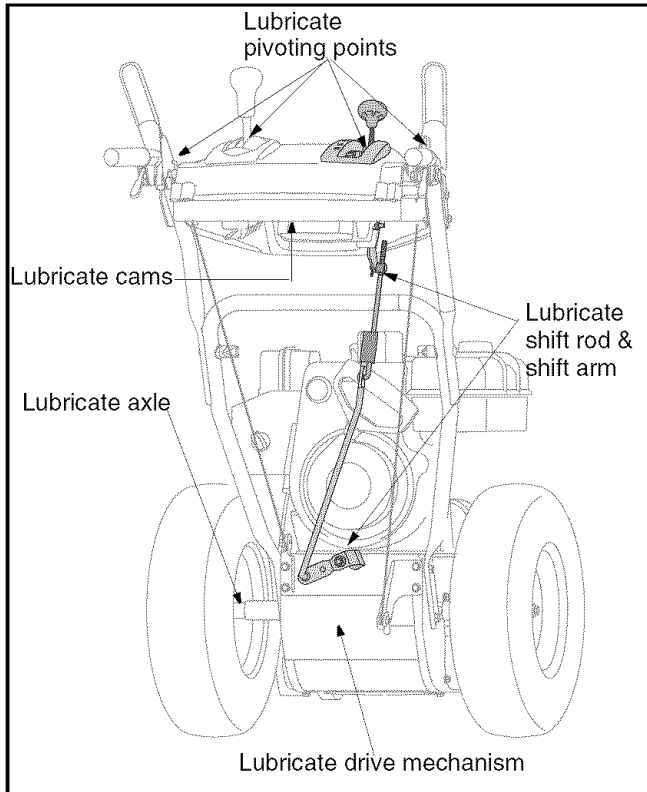

Figure 15
- **Drive/Auger Control Lock:** The cam on the ends of the control rods which interlock the drive and auger controls must be lubricated at least once a season or every 25 hours of operation using a multi-purpose automotive grease. The cam can be accessed beneath the handle panel. See Figure 15